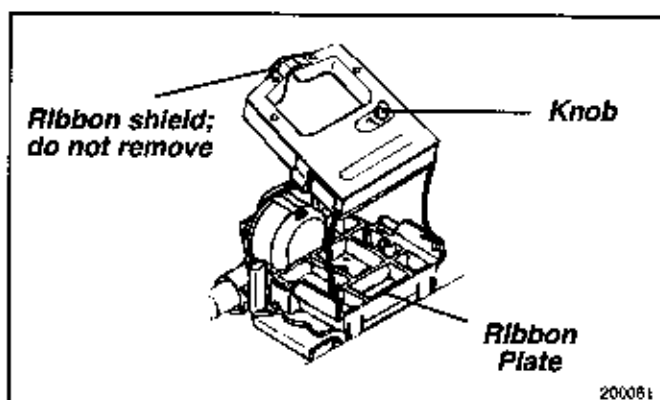

Figure 6-7
1. With the knob facing up, tilt the ribbon cartridge onto the printhead plate so it slides into the area of the plate is closest to the front of the printer (see Figure 6-7).